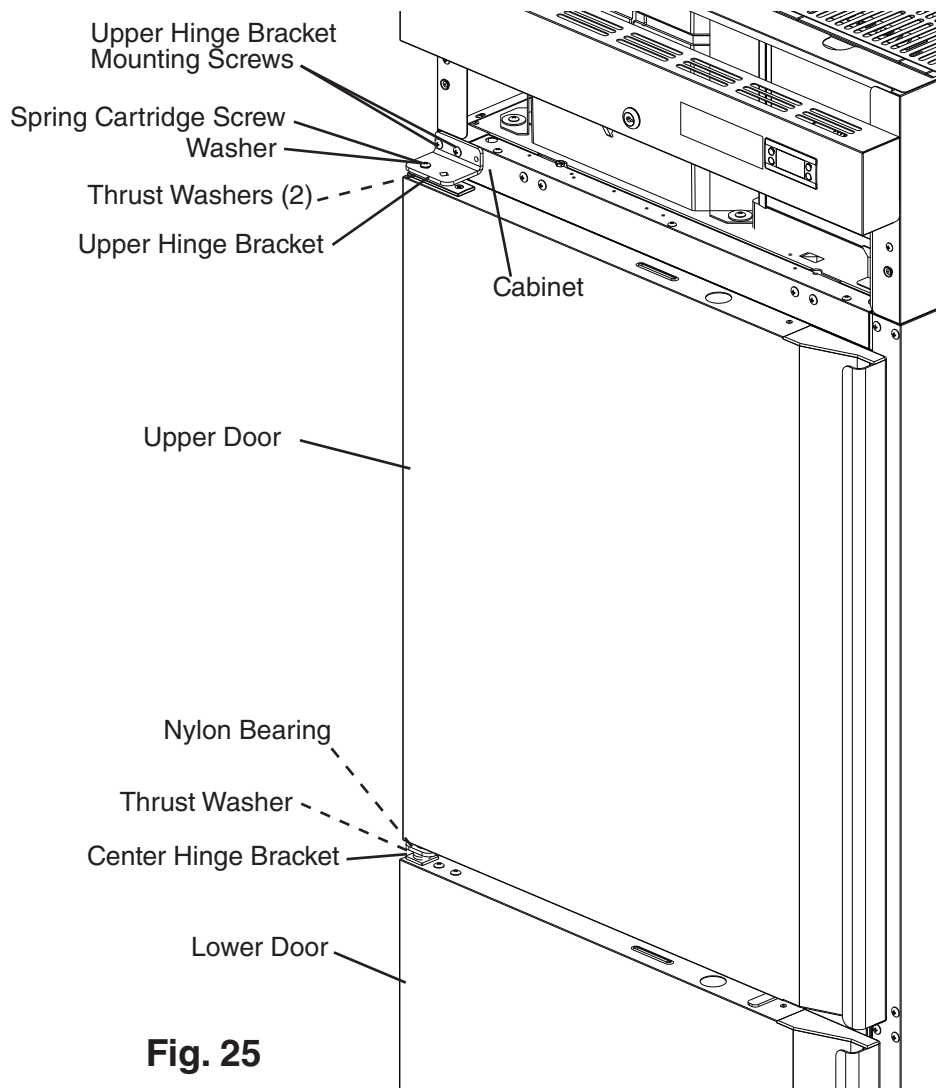

Fig. 25
- 18) With the door in the closed position, place the upper doors nylon bearing onto the center hinge bracket upper pin, then secure the upper hinge bracket to the cabinet with the upper door in the closed position. See Fig. 25.